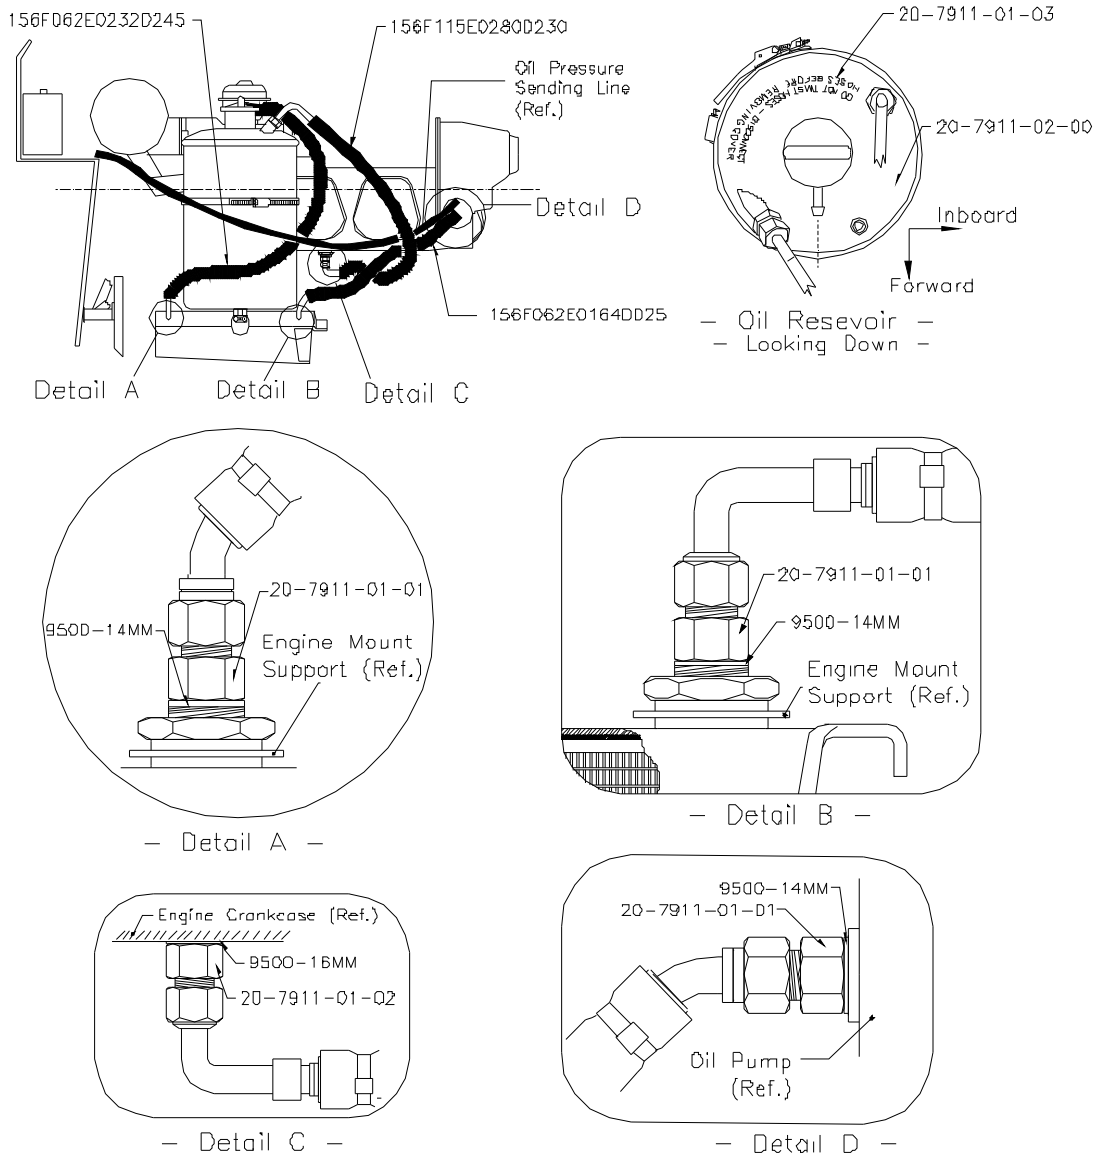

Figure 1
- 10.6 Install remaining parts from kit as shown in Figure 1.